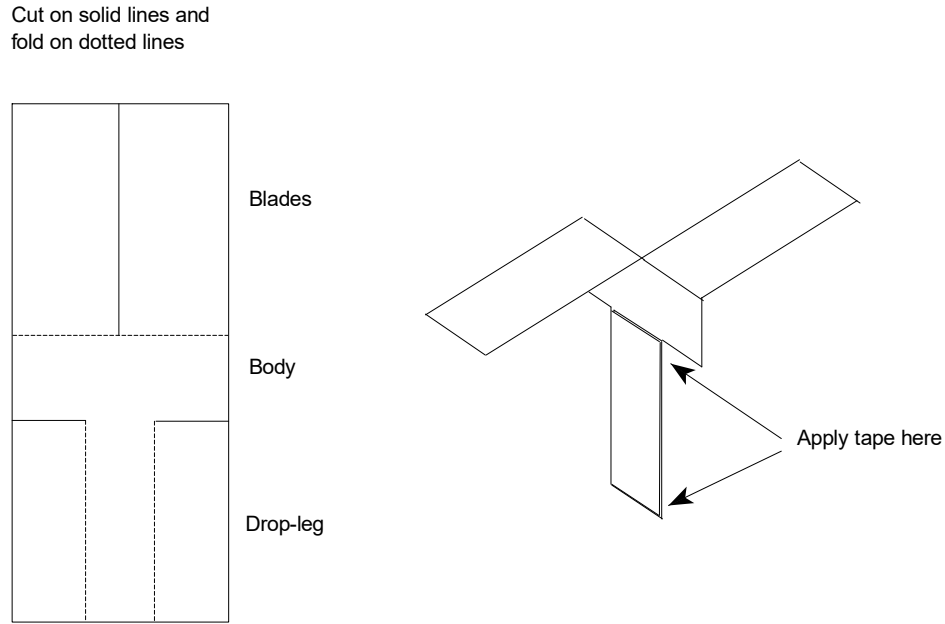

FIGURE 9.1. Paper helicopter construction.
17. An experiment will be performed to study the flight time of a paper helicopter. The geometry of the helicopter is shown in Figure 9.1. The process input variables to be studied are Blade Length, Blade Width, and Paper Clip. The variables matrix is: